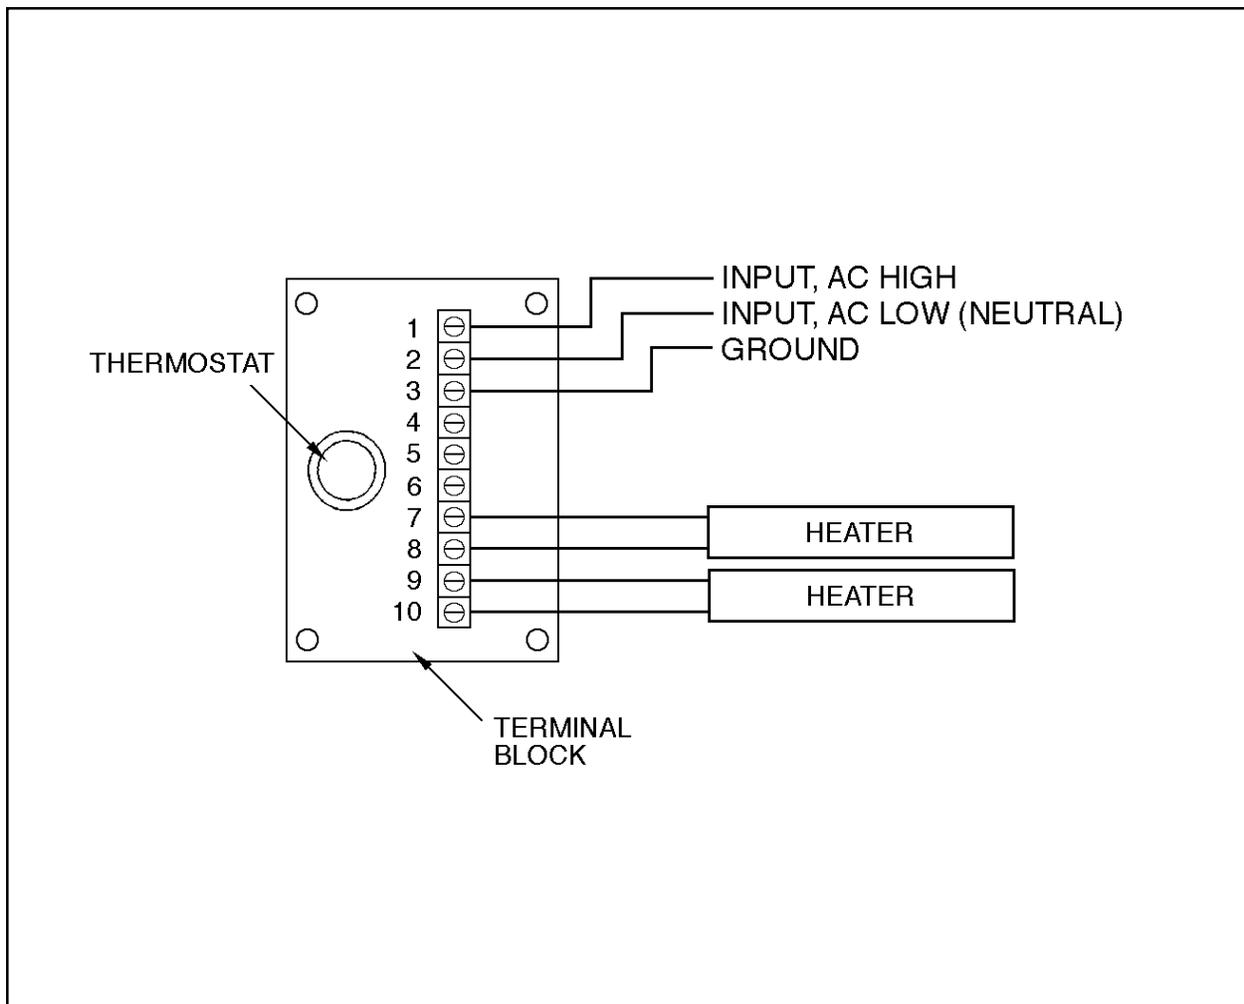

Figure 2. HKHS3000 and HKHS3024 Wiring Diagram
4. Wire per the wiring diagram in Figure 2.